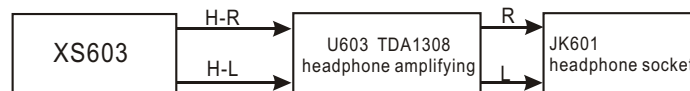

Figure 3.2.13.1 Headphone circuit block diagram
1. Headphone circuit block diagram is shown in the figure 3.2.13.1: